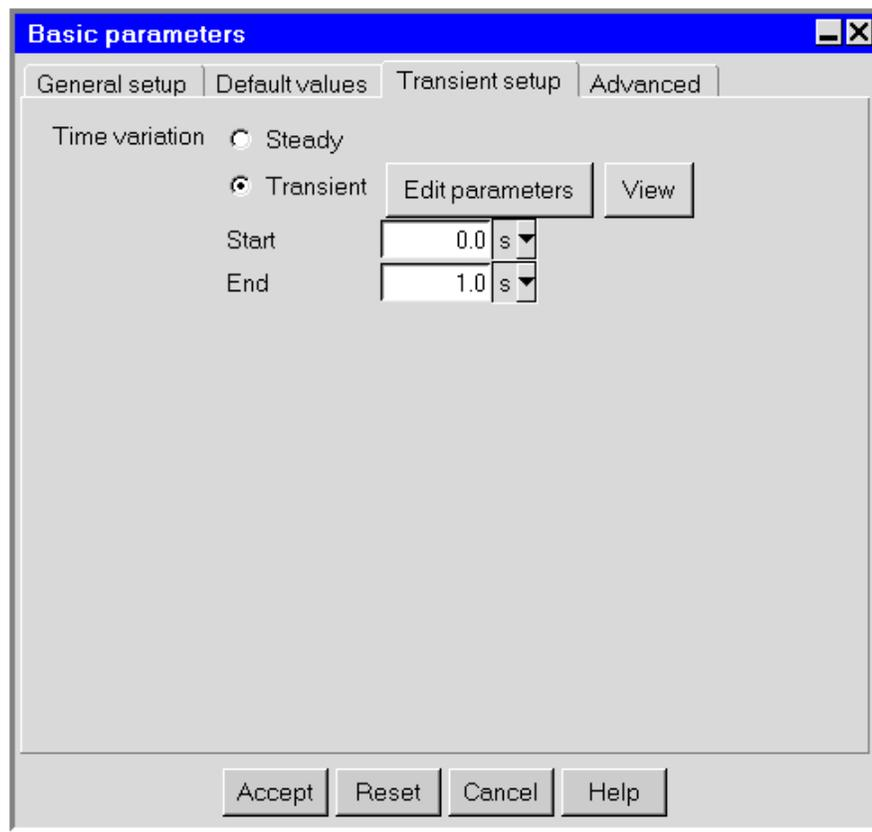

Figure 20.1.1: The Basic parameters Panel (Transient setup Tab)
1. Enable the Transient option in the Transient setup tab of the Basic parameters panel (Figure 20.1.1). To open the Basic parameters panel, double-click on the Basic parameters item under the Problem setup node in the Model manager window.
The **Phase** is the time between $t = 0$ and the first peak of the square wave. The **On time** is the time that the square wave is at its peak value. The **Off time** is the time between peak values of the square wave. The **Off value** is the value of the square waves between the peaks of the wave. The peak value is the specified value of the transient quantity (e.g., 293 for Temperature in Figure 20.1.1).